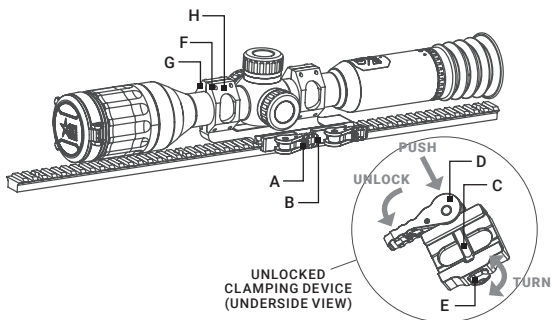

FIGURE 2-7. INSTALLATION WITH QUICK RELEASE MOUNT
You can mount the Horus scope on a Picatinny/Weaver rail of weapon using quick release (QR) mount (Figure 2-7).
1. Unlock the clamping devices of the QR mount by pushing down on the lever holders (A) and unlocking the levers (B).
2. Install the mount on the Picatinny/ Weaver rail so that the stops (C) slide into the transverse slots on the rail.